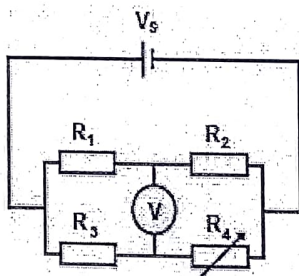

Figure Q4.b
- b) Figure Q4.b for Wheatstone bridge is shown below with resistances  $R_1 = 220\Omega$ ,  $R_2 = 550\Omega$  and  $R_4 = 1000\Omega$ . Calculate the resistance  $R_3$ . **[5Marks]**